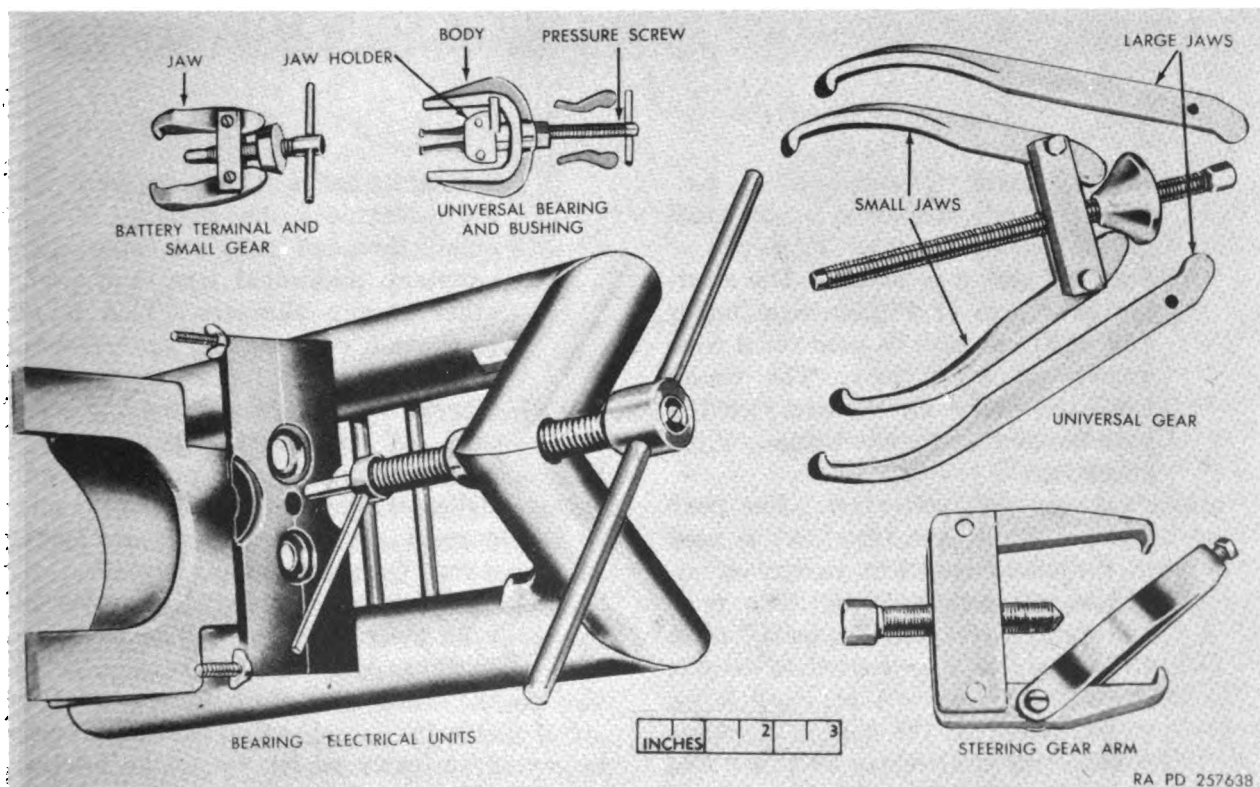

Figure 168. Bearing, bushing, and gear pullers.
(1) *Universal gear pullers.* Universal gear pullers (fig. 168) are usually of yoke and screw construction with two jaws. The jaws have from 0 to
- (2) *Universal bearing and bushing puller.* The universal bearing and bushing puller (fig. 168) has a pulling capacity of $1\frac{1}{4}$ inches. The larger jaws are designed to remove bronze or oilite bushings without crumbling them. The small jaws will pull clutch pilot bearings. This puller consists of a U-shaped body, a jaw holder, two large jaws, two small jaws, two jaw pins, and a pressure screw with slide bar.
- (3) *Bearing puller, electrical units.* This type bearing puller (fig. 168) is designed to pull bearings from shafts of electrical units. It is supplied with plates to fit a variety of unit constructions and to fit behind the particular shaft bearings to be pulled.
- (4) *Battery terminal and small gear puller.* The battery terminal and small gear puller (fig. 168) is of the screw type and is capable of use in
- (5) *Steering gear arm puller.* The steering gear arm or Pitman arm puller (fig. 168) can also be used for a wide variety of other jobs. The clamp locks the puller on the arm, leaving both hands free for the actual pulling operation.